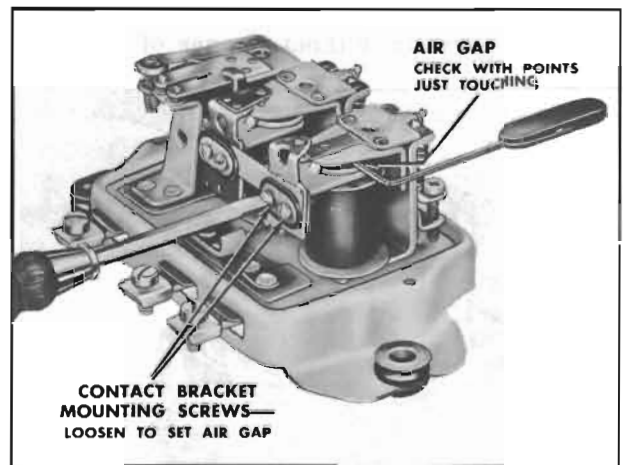

Figure 10-23—Adjustment of Voltage Regulator Air Gap
2. Adjust air gap on each unit, if necessary, by loosening contact support mounting screws and raising or lowering support as required. Be sure points are lined up when tightening screws, then recheck gap after adjustment. See figure 10-23.